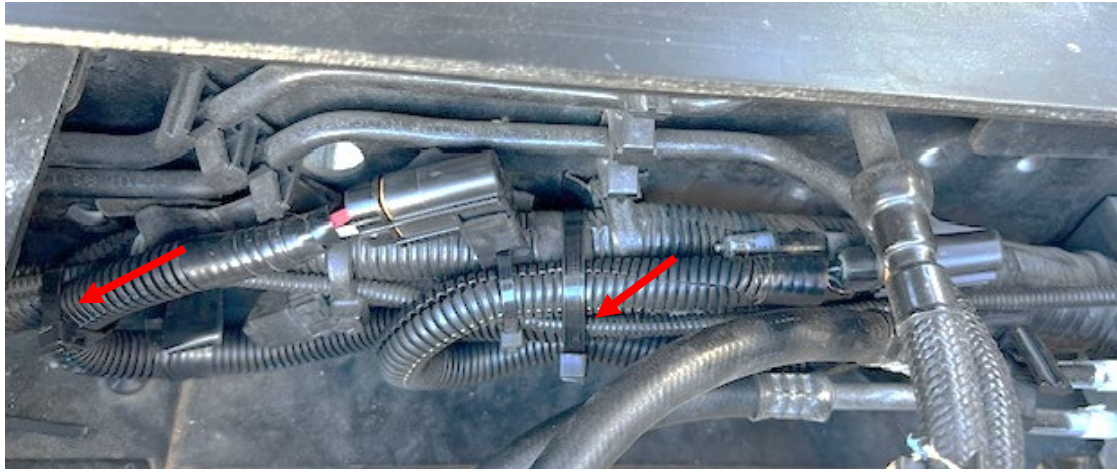

Figure 14
16. **For NPR/NPRHD ONLY**- Use wire ties to secure both replacement fuse conduits to the chassis harness. (See Figure 14.). Skip to Step 19.